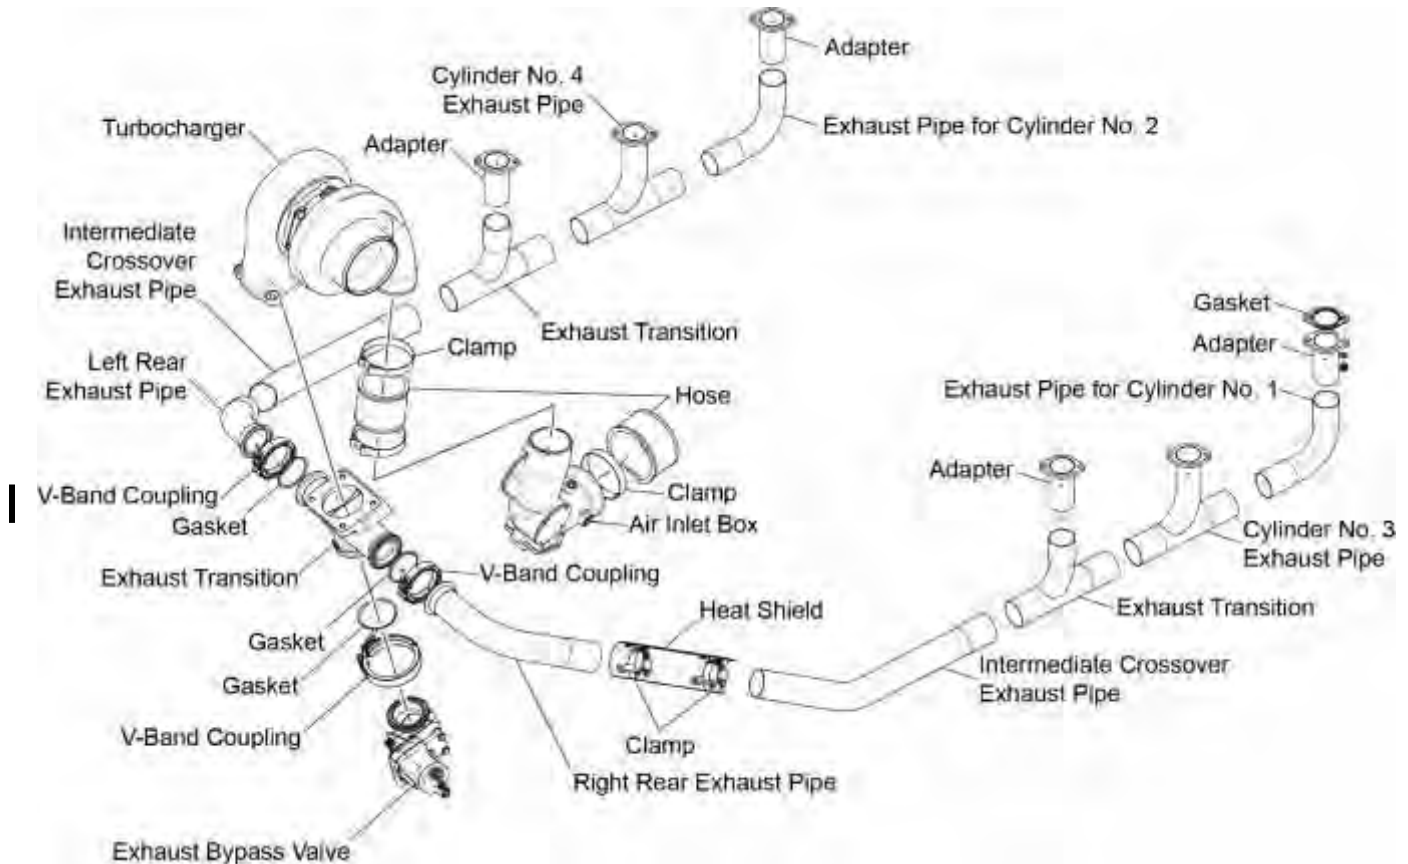

Figure 1
- A. The turbocharger has two sides, a turbine side and a compressor side. Exhaust gas continuously passes through the turbine side of the turbocharger and turns the turbine within the turbocharger. The rotating turbine compresses air that flows through intake pipes on the compressor side of the turbocharger. The air becomes pressurized and is discharged into the inlet pipe to the air inlet box (Figure 1). The exhaust gas is discharged through exhaust outlet pipe attached to the turbocharger.
- B. An exhaust bypass valve (Figure 1) at the exhaust transition at the rear of the engine controls the amount of exhaust gas flow. This valve is controlled by an actuator. The actuator is activated by a solenoid.
- B. Make sure all connections in the exhaust system at the turbocharger V-band couplings (Figure 1) are tight and do not have air leaks. Examine the tightness of the V-band coupling on the turbocharger by inserting a screwdriver in the space made by the hinged latch of the coupling. Try to turn the coupling using a force of approximately 20 ft.-lb. (27 Nm). If the clamp does not turn, measure the torque of the self-locking clamp nut by tightening it to the torque in the Special Torque Requirements Tables in Part 1, Section V in the latest revision of the **Service Table of Limits - SSP-1776**. If the clamp turns, remove it, clean it, and examine it for cracks or distortions. Re-use or replace the clamp as necessary.
- C. Repeat the previous step for the V-band couplings that attach the exhaust bypass valve (Figure 1).